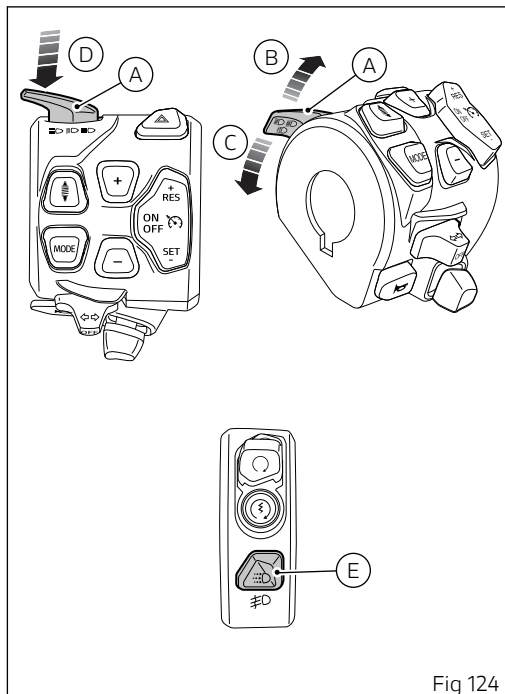

Fig 124
When the DRL is set to "Auto" mode, the corresponding warning light will turn on. If the DRL was set to "Auto" mode, press button (E, Fig 124) to disable that mode and set manual light management. Press again button (E, Fig 124) to re-enable DRL but with control strategy set to "Manual". In this case, upon next Key-On, DRL will be again set to "Auto" mode.
If the DRL lights are in this mode, as set through the "DRL" function within the "Setting menu" (page 287) DRL lights will not change their status upon key-on. To switch on or off the DRL lights, it is necessary to press button (E, Fig 124).
- if DRL lights are present, press and hold button (E, Fig 124) for a long time;
- if DRL lights are not present, press button (E, Fig 124).